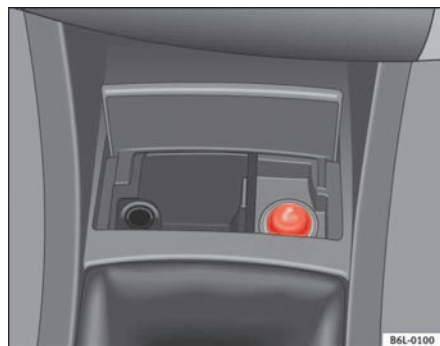

Fig. 85 Cigarette lighter
- Press on the cigarette lighter ⇒ fig. 85 to activate it ⇒ .